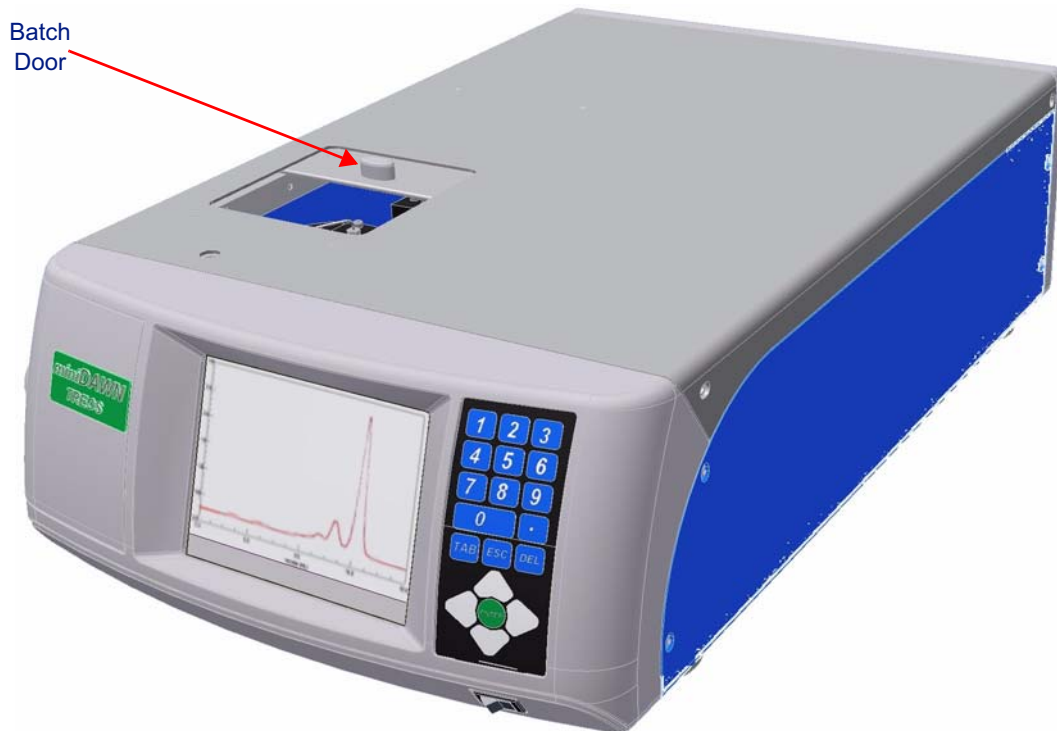

Figure 3-4: miniDAWN TREOS Top Cover
3. Remove the four screws that fasten the top cover to the instrument using the 2.0 mm Ball driver. The screws are shown in Figure 3-4.